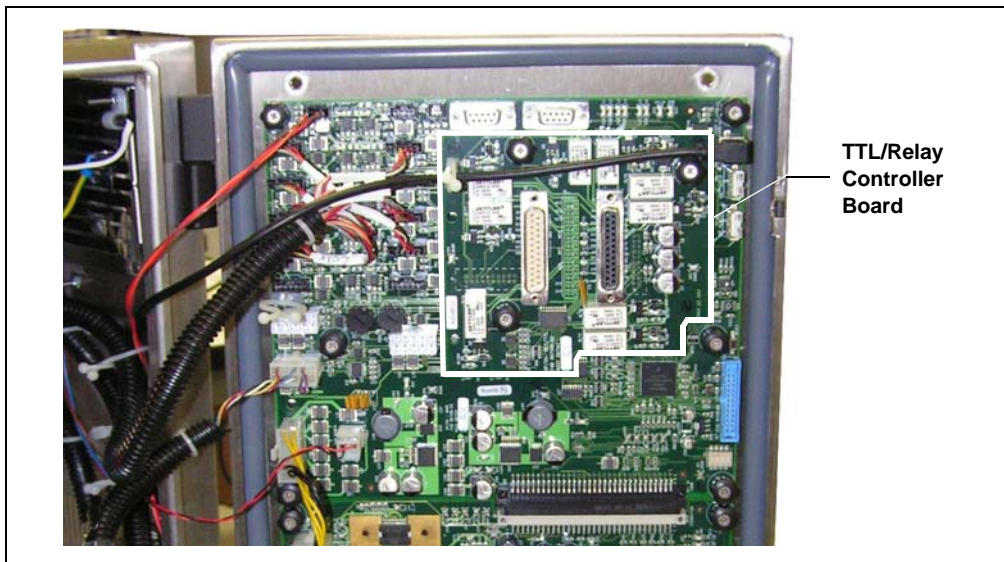

Figure C-2. SP Electronics Board: TTL/Relay Controller Board Installed (Vertical SP Enclosure Shown)
5. Orient the TTL/Relay controller board with the component side facing up and the notched corner on the lower right-hand side (see Figure C-2).
Figure C-2 shows the TTL/Relay controller board (outlined in white) attached to the SP electronics board.